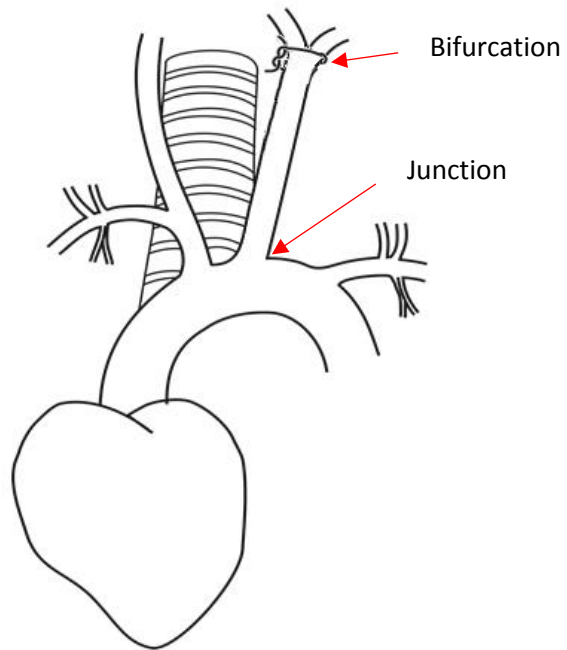

Figure 3: Suture tie at carotid bifurcation and junction of left carotid artery to aortic arch
14) Locate the left carotid artery and the suture at the bifurcation. (Figure 3)